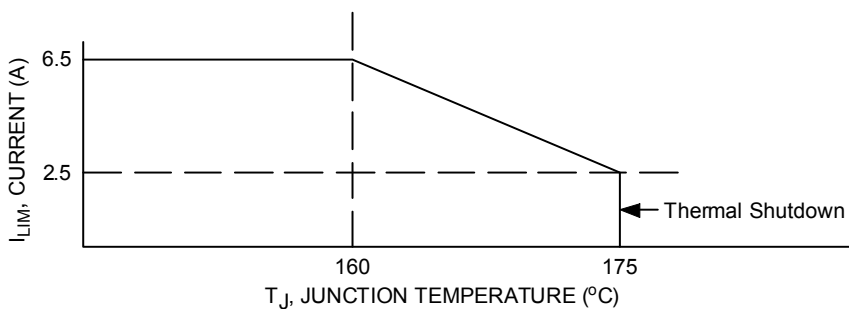
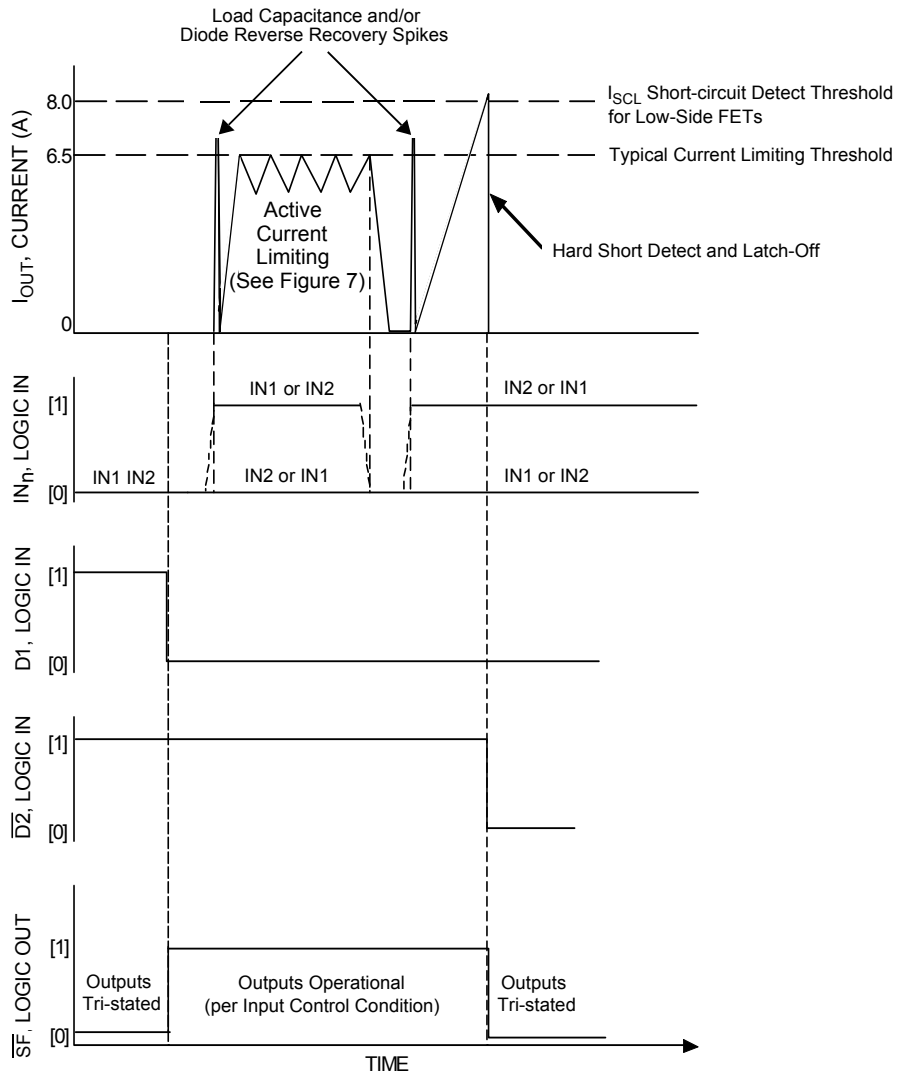

Figure 7. Active Current Limiting Versus Temperature (Typical)
Figure 8. Active Current Limiting Versus Time
26. Increasing currents will become limited at ILIM. Hard shorts will breach the ISCH or ISCL limit, forcing the output into an immediate tri-state latch-OFF. See Figures 8 and 9, page 10. Active current limiting will cause junction temperatures to rise. A junction temperature above 160 °C will cause the active current limiting to progressively “fold-back” (or decrease) to 2.5 A typical at 175 °C where thermal latch-OFF will occur. See Figure 7, page 9.
The current limiting threshold value is dependent upon the device junction temperature. When  $-40\text{ }^\circ\text{C} < T_J < 160\text{ }^\circ\text{C}$ ,  $I_{LIM}$  is between 5.2 A and 7.8 A. When  $T_J$  exceeds  $160\text{ }^\circ\text{C}$ , the  $I_{LIM}$  current decreases linearly down to 2.5 A typical at  $175\text{ }^\circ\text{C}$ . Above  $175\text{ }^\circ\text{C}$  the device overtemperature circuit detects  $T_{LIM}$  and overtemperature shutdown occurs (see Figure 7, page 9). This feature allows the device to remain